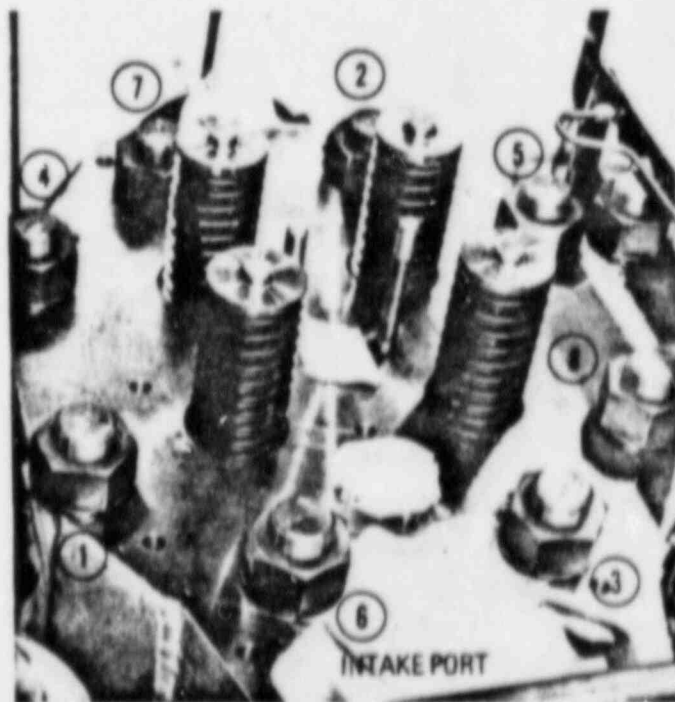

Figure 6-B-4. Tightening Sequence For
- d. Tighten nuts in increments, and in a criss-cross pattern, following the sequence shown in figure 6-B-4. Torque to the specified torque value. This procedure will pull the head down evenly.